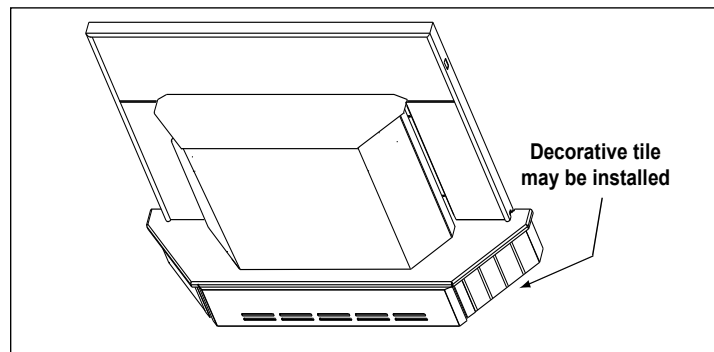

Figure 20.3
3. Measure front and side trims to required height to cover scissors and mark pieces for cutting. Cut excess material from **top** of trim’s edge, not bottom. This edge will be sharp; wear gloves to prevent injury to your hands. **Figure 20.3.**
NOTE: 3/8 inch (9.5mm) thick tile or like material can be cut to size and fit under lip of top trim edge for a decorative touch. **Figure 20.3.**